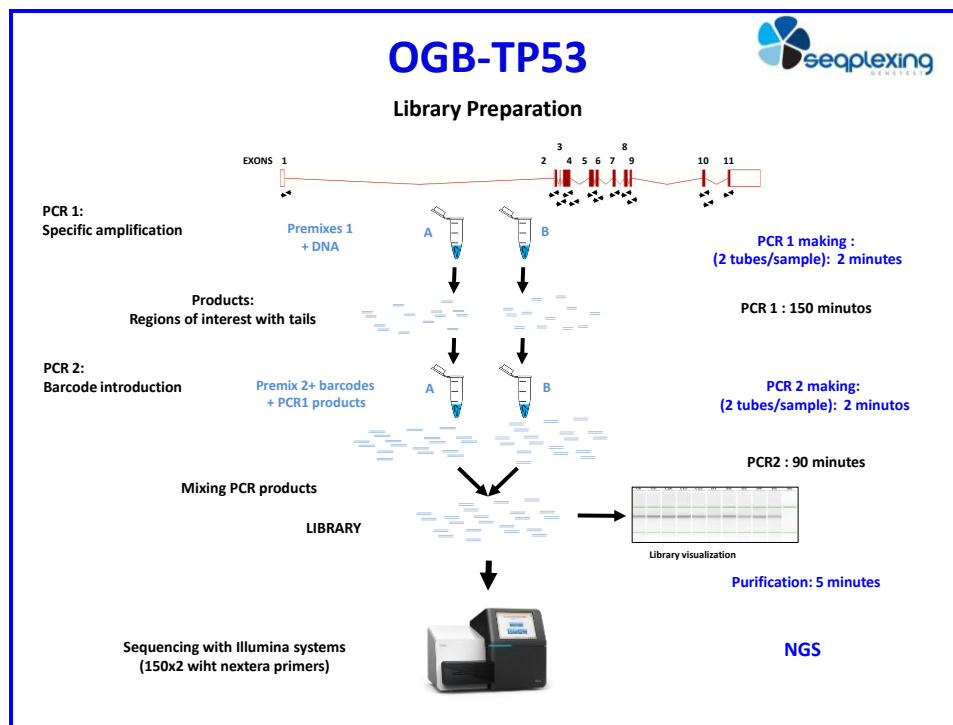

Figure 2: Schematic representation of the TP53 gene, the regions analyzed and the process necessary to obtain the NGS libraries.
Our OncoGenBasic (OGB) kits are based on the generation of amplicon libraries for NGS, which Seqplexing has optimized (Figure 1). OGB protocols allow the use of the first PCR product directly in the second, without purification or quantification of the PCR product. Our kit OGB for TP53 (OG-TP53) allows the amplification of all regions of interest for TP53 gene analysis in only two consecutive PCR reactions. The protocol produces specific amplification free of artefacts that can interfere with data analysis. The protocol is simple and requires little manual work. The final product is ready to perform the sequencing reaction with an NGS system from Illumina® that allows paired-end (PE) reactions of 150 bp, dual barcoding and using Nextera oligos for sequencing (Figure 2). Our kits produce practically only specific products (more than 98%), avoiding different problems in the analysis that may be produced by nonspecific or artefactual products (products in unwanted regions, small-sized PCR products or PCR products that include several amplicons).
Our OG kits allow detecting all point mutations in more than 1% of the DNA of the copies present in the regions analyzed. The analysis of the libraries is done by sequencing the amplicons by the MiSeq system or other Illumina® systems by 150x2 sequencing (PE sequencing and dual barcoding). Therefore, the kit can be used for the detection of somatic and germline mutations, requiring different depth for each application: 1000x minimum for somatic and 100x for germline mutations. The OG-TP53 kit allows detecting the point mutations present in all the coding regions of the TP53 gene and the important regions for the splicing at the ends of the exons and introns that may have scientific and/or clinical interest (Figure 2). The reference sequences used are SwissProt P04637, NC_000017.10, NM_000546 and ENST00000269305.8 (GRCh38.p12).
THE SECOND PCR REACTION IS ALSO CARRIED OUT IN 2 SEPARATE REACTIONS, SO EACH SAMPLE MUST BE AMPLIFIED IN TWO TUBES USING THE SAME COMBINATION OF BARCODES FOR EACH SAMPLE. See figure 2.